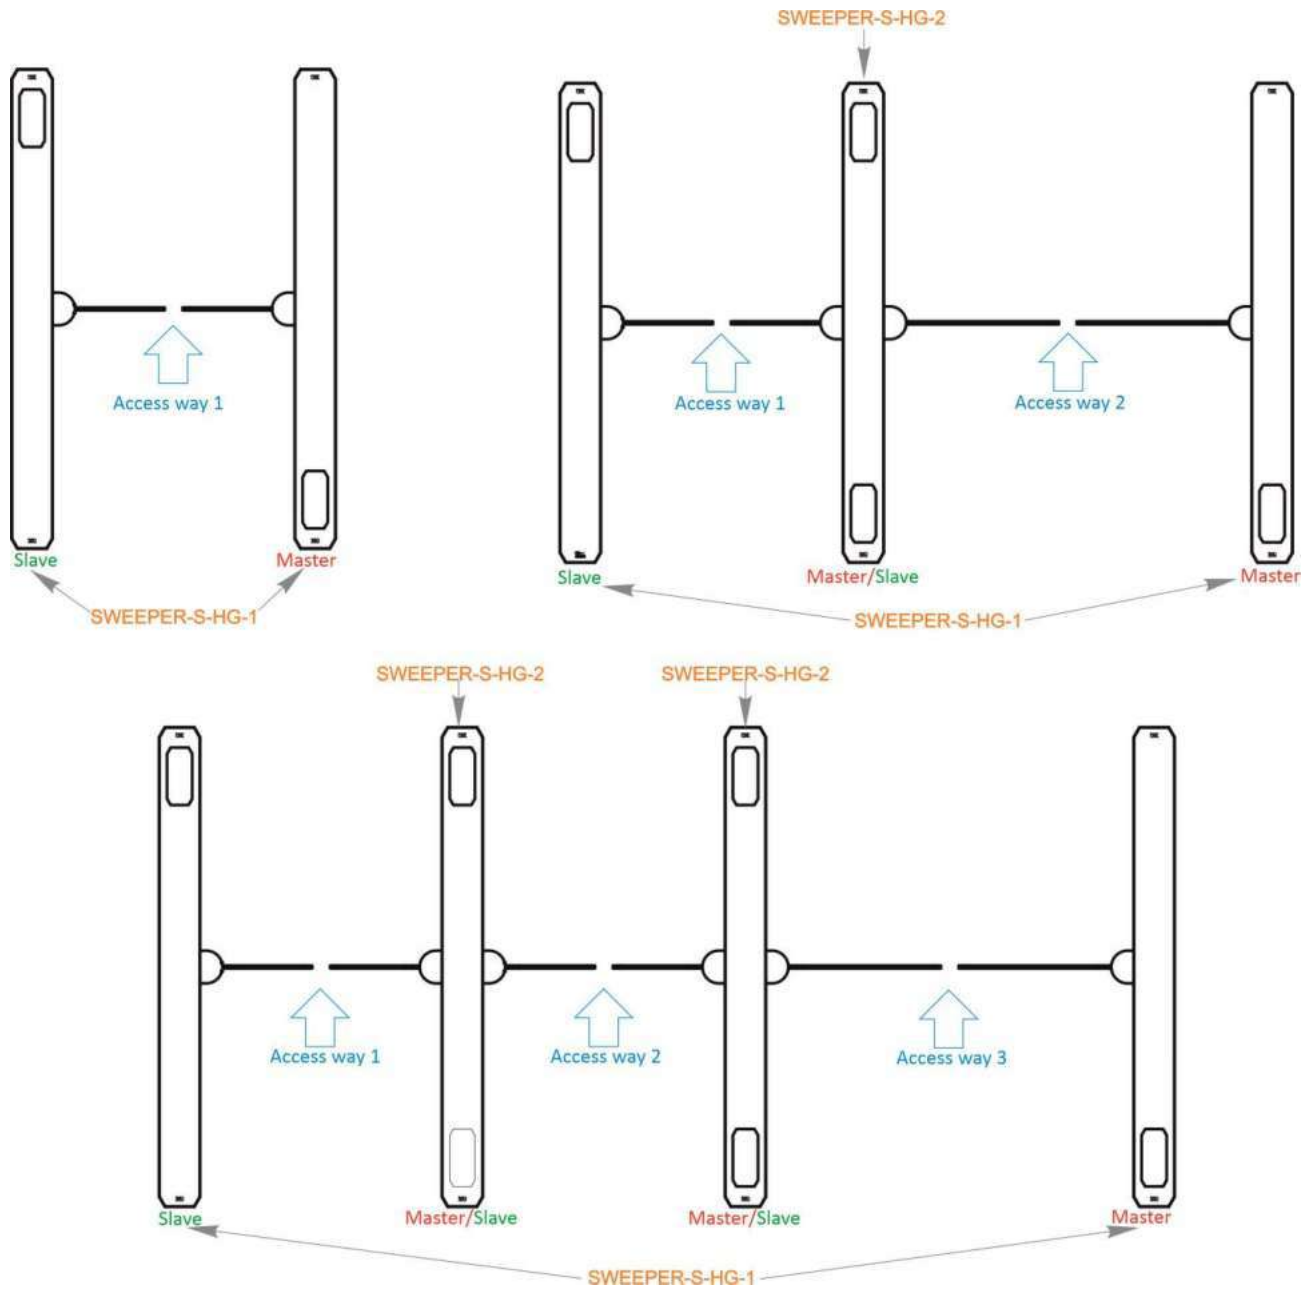

Fig. 14 – The "SWEEPER-S-HG" turnstile access way arrangement options
- Cables between cabinets (*Figure 14*);